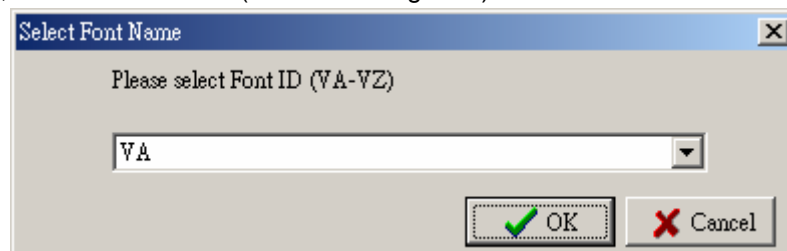

Fig.17.2
3. Click Font ID, and then click OK. (refer to the Fig.17.2)